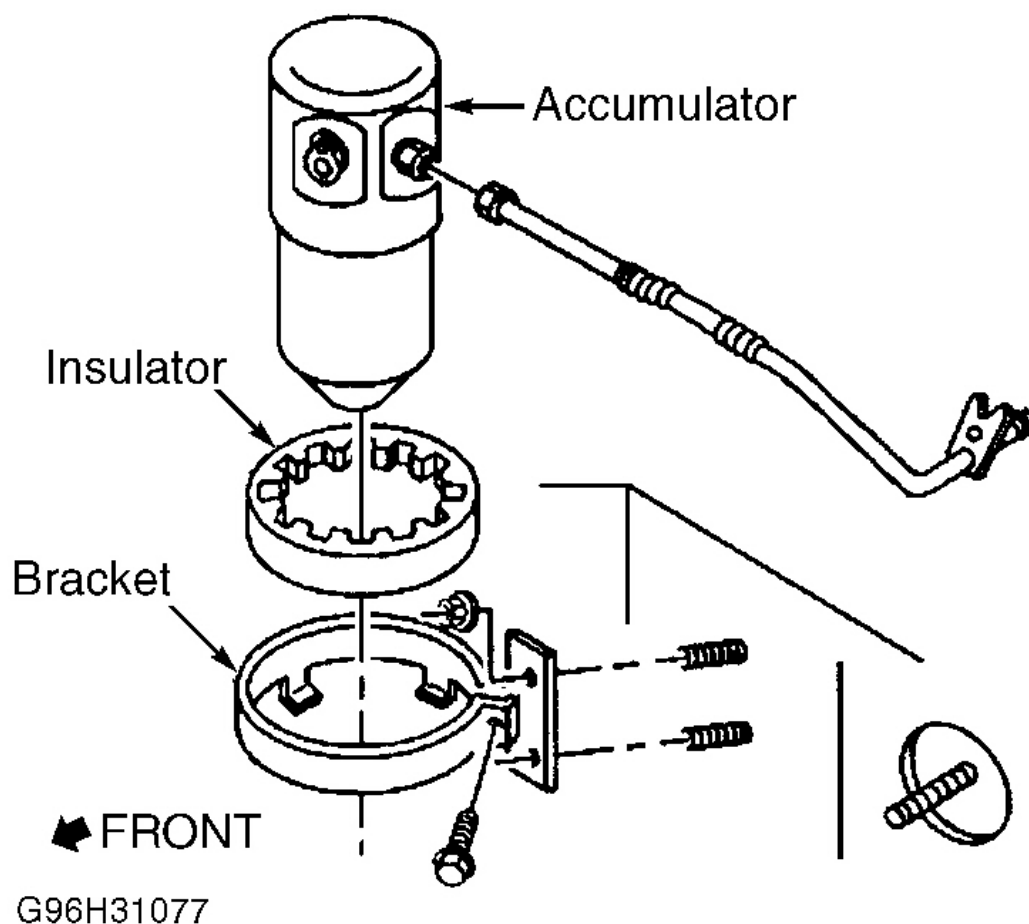

Fig. 5: Removing Accumulator & Insulator
2. Remove accumulator bracket from dash panel. Remove accumulator and insulator from bracket. See **Fig. 5**. Drain oil from accumulator, measure and record amount of oil drained.